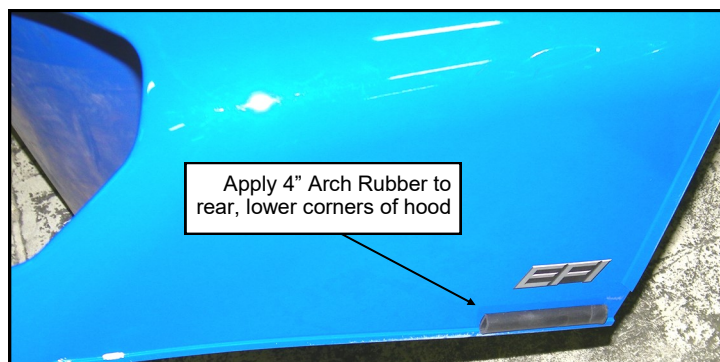

Figure 1.2: Hood Rubber
1.2 Remove the front hood from the Carryall. Apply one 4" strip of Arch rubber to either side of the hood (**Figure 1.2**).